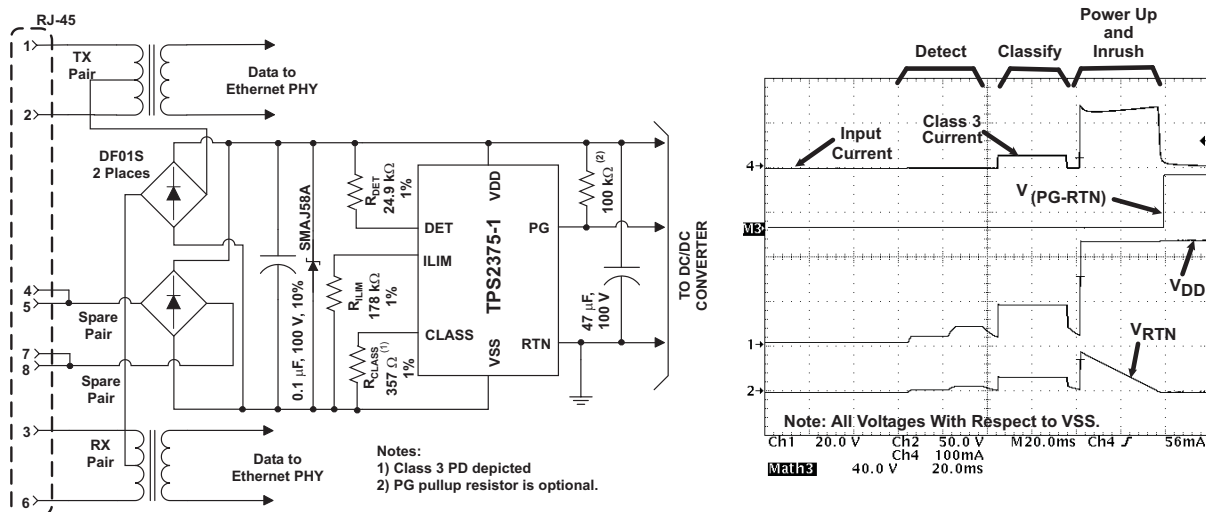

Figure 1. Typical Application Circuit and Start-Up Waveforms
(1) Stresses beyond those listed under “absolute maximum ratings” may cause permanent damage to the device. These are stress ratings only, and functional operation of the device at these or any other conditions beyond those indicated under “recommended operating conditions” is not implied. Exposure to absolute–maximum–rated conditions for extended periods may affect device reliability.
(2) I_(RTN) = 0
(3) SOA limited to V_(RTN) = 80 V and I_(RTN) = 515 mA.
(4) Surges applied to RJ-45 of Figure 1 between pins of RJ-45, and between pins and output voltage rails per EN61000-4-2, 1999.